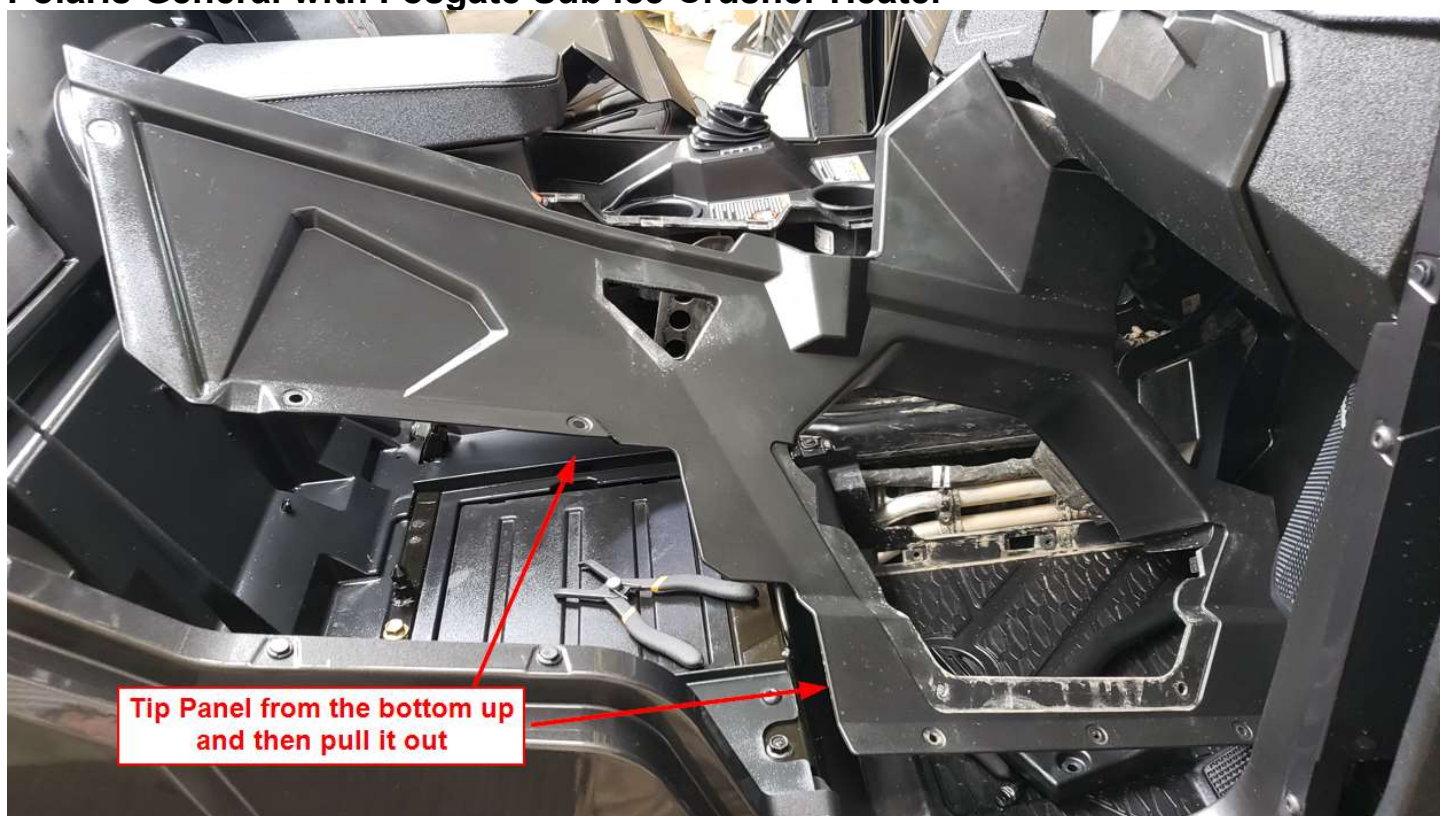

Figure 5
- f. Remove the Passenger Side Center Tunnel Cover for best access of Heater Hose Routing as shown in Figure 4 and Figure 5.